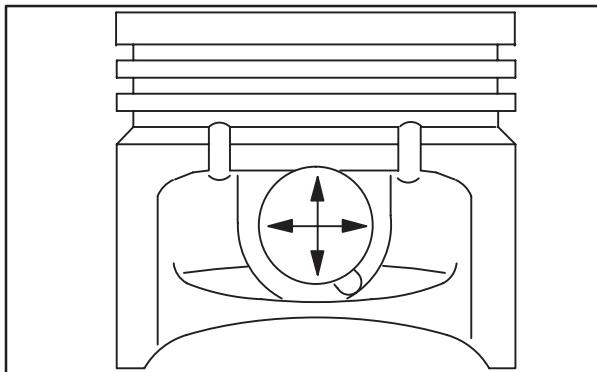

Fig. 5
3. Check piston pin bore, **Fig. 5**. Replace piston if worn beyond reject dimension or **0.0005" (0.01 mm)** out of round.